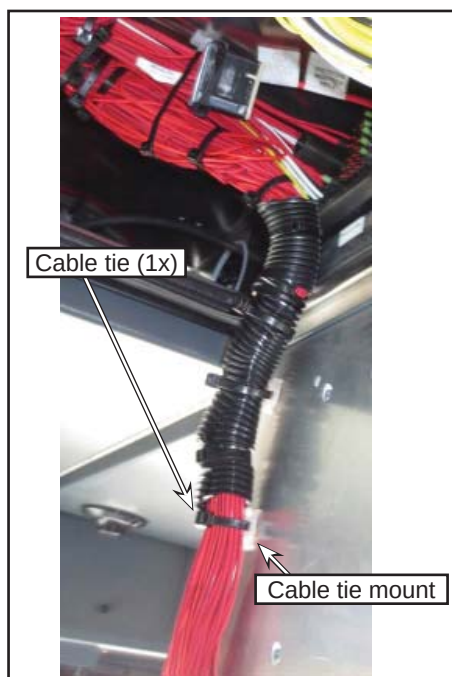

Figure 8 - One Cable Tie on the WHA #78 Harness
- 1.24. Install one G5007995 cable tie around the WHA #78 harness and through the cable tie mount. See Figure 8.